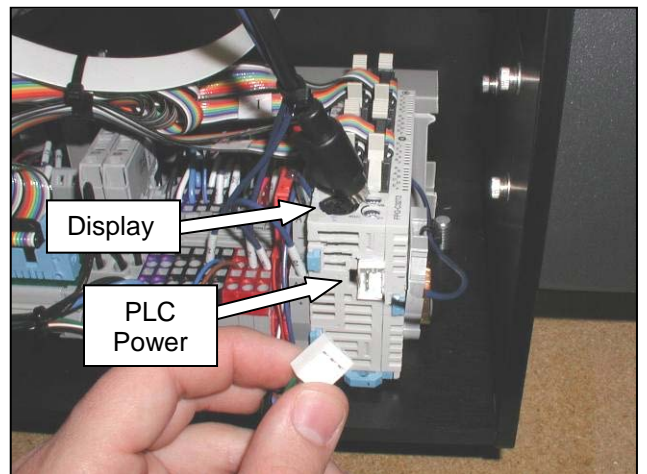

Figure 3-81. PLC Connections
12. Reconnect the touch screen communications cable and the power wiring (Figure 3-81).